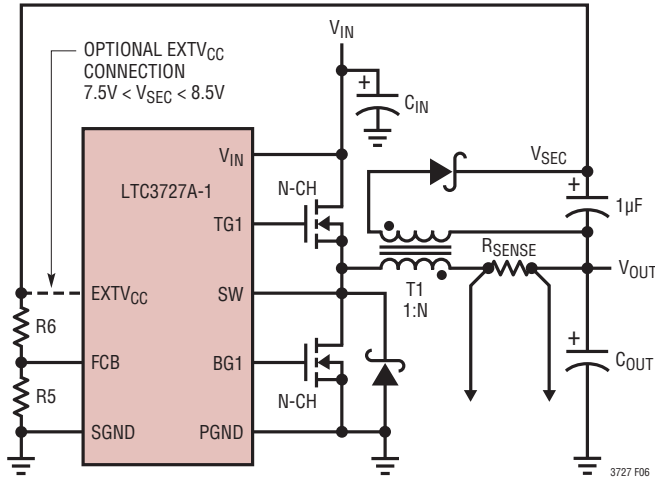

Figure 6. Secondary Output Loop & EXT_{VCC} Connection
4. EXT_{VCC} Connected to an Output-Derived Boost Network. For 3.3V and other low voltage regulators, efficiency gains can still be realized by connecting EXT_{VCC} to an output-derived voltage that has been boosted to greater than 7.5V. This can be done with the inductive boost winding as shown in Figure 6.
The secondary output voltage V_{SEC} is normally set as shown in Figure 6 by the turns ratio N of the transformer: